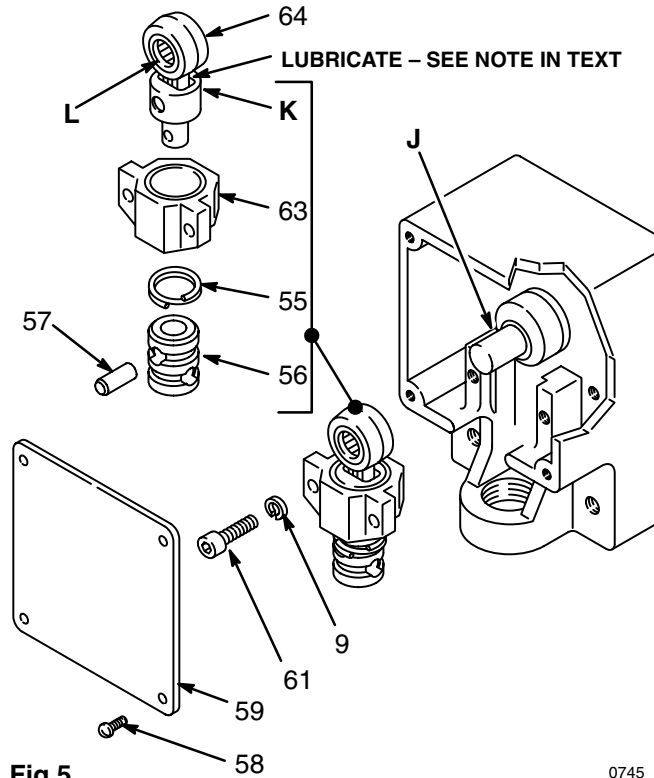

Fig 5
**NOTE:** After every 100 hours of operation, or whenever servicing the pump (whichever comes first), fill the cavity in connecting rod (64) with SAE 10 non-detergent motor oil.
Remove the pump as described on page 14. Remove the four screws (58) and the cover (59). Remove the two capscrews (61) and lockwashers (9). Remove the bearing (63) and the connecting rod (64), sliding the connecting rod off the crankshaft. (J). See Fig 5.